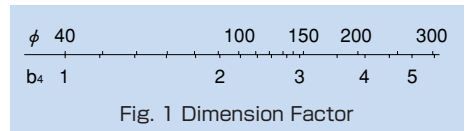

Fig. 1 Dimension Factor
- C : Basic dynamic load rating (N)
- P : Equivalent radial load (N)
- b₄ : Dimension factor (see Fig. 1)